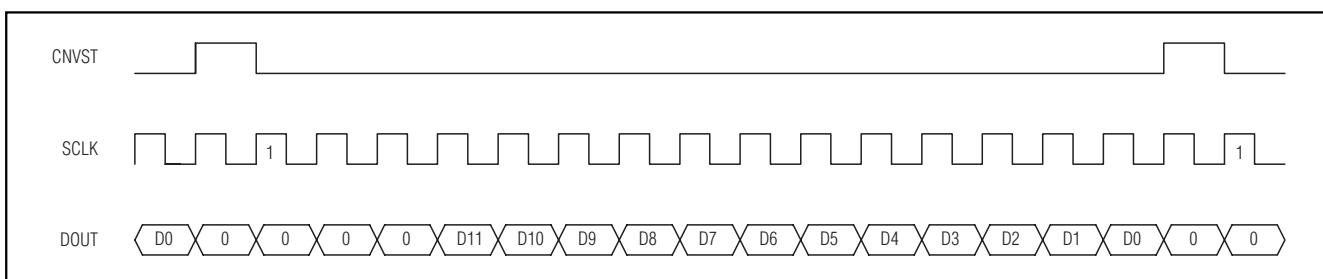
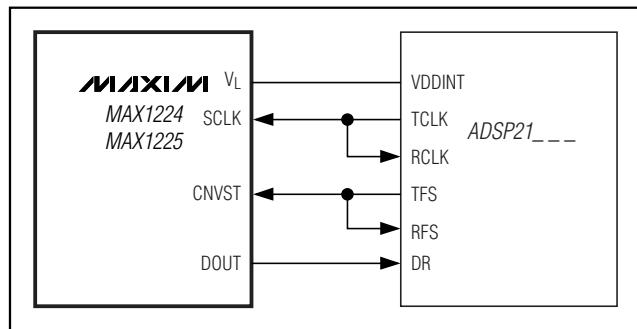

Figure 17. DSP Interface—Continuous Conversion
Figure 19. Interfacing to the ADSP21\_--
The MAX1224/MAX1225 can also be connected to the TMS320C54\_ by using the data transmit (DX) pin to drive CNVST and the CLKX generated internally to drive SCLK. A pullup resistor is required on the CNVST signal to keep it high when DX goes high impedance and 0001hex should be written to the DXR continuously for continuous conversions. The power-down modes may be entered by writing 00FFhex to the DXR (see Figures 17 and 18).
The MAX1224/MAX1225 can be directly connected to the ADSP21\_ \_ family of DSPs from Analog Devices, Inc. Figure 19 shows the direct connection of the MAX1224/MAX1225 to the ADSP21\_ \_ . There are two modes of operation that can be programmed to interface with the MAX1224/MAX1225. For continuous conversions, idle CNVST low and pulse it high for one clock cycle during the LSB of the previous transmitted word. The ADSP21\_ \_ STCTL and SRCTL registers should be configured for early framing (LAFR = 0) and for an active-high frame (LTFS = 0, LRFS = 0) signal. In this mode, the data-independent frame-sync bit (DITFS = 1) can be selected to eliminate the need for writing to the transmit-data register more than once. For single conversions, idle CNVST high and pulse it low for the entire conversion. The ADSP21\_ \_ STCTL and SRCTL registers should be configured for late framing (LAFR = 1) and for an active-low frame (LTFS = 1, LRFS = 1) signal. This is also the best way to enter the power-down modes by setting the word length to 8 bits (SLEN = 1001). Connect the V\_L pin to the ADSP21\_ \_ supply voltage when the MAX1224/MAX1225 are operating with a supply voltage higher than the DSP supply voltage (see Figures 17 and 18).